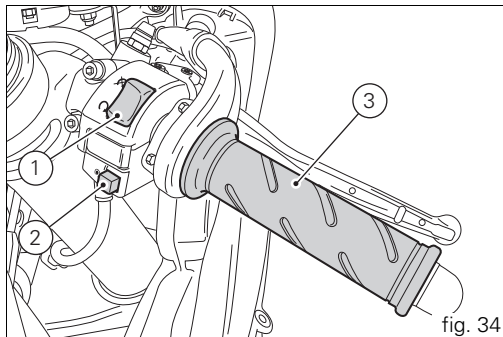

fig. 34
- 1) if the code is recognised, the immobilizer enables engine ignition. Press the START button (2, fig. 34), to start the engine;
## RH switch (fig. 34)
## Throttle twistgrip (fig. 34)